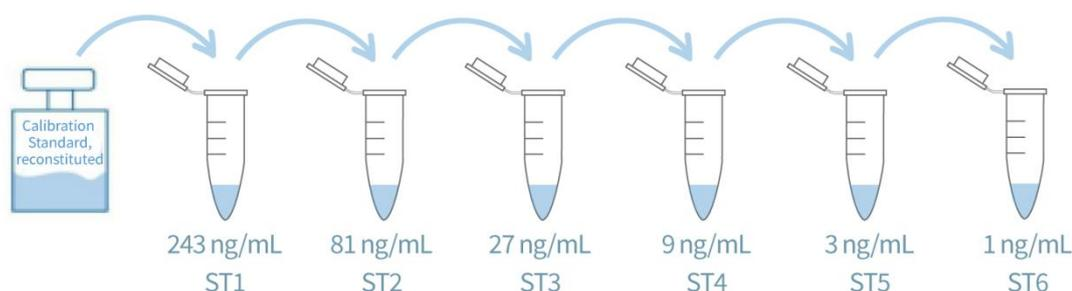

Figure 3. Graphic scheme of Sf9 HCP Calibration Standard solutions
- Prepare Sf9 HCP Calibration Standard solutions as shown in Fig 3 and Table 3.